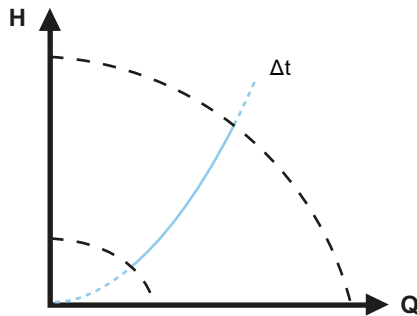

Fig. 33 Differential temperature
- Ensures a constant differential temperature between the pump and the external sensor, see figures 33 and 34.